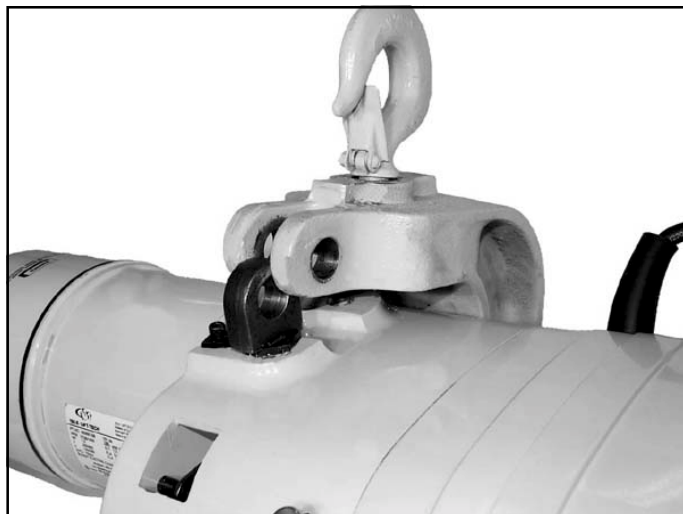
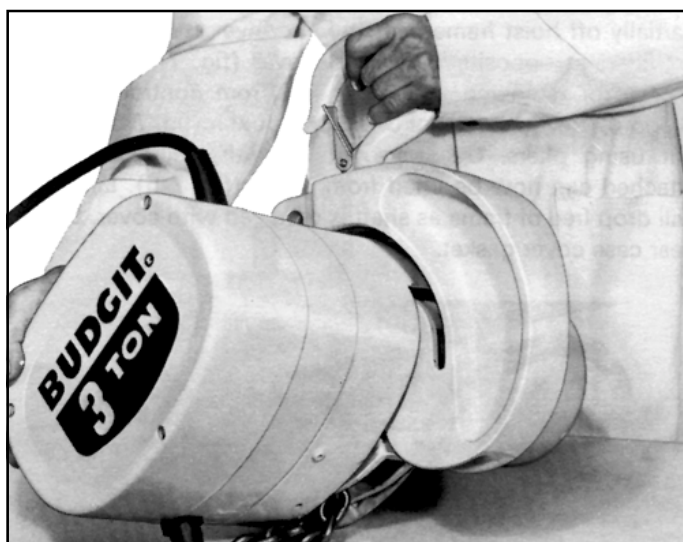

Figure 7-2. 3 Ton Hanger Bracket Connection Pin Removed
Figure 7-3. Removing 3 Ton Hanger Bracket from Hoist Frame
(4) To remove 3 ton hanger bracket from hoist, remove retaining ring and connecting rod pin (see fig. 7-2). Rotate hoist approximately 45° (see fig. 7-3) and hanger will slip free from hoist frame.
(3) On 3 ton models, remove retaining ring from connecting rod pin and push connecting rod pin through bracket and connecting rod, releasing hanger (see fig. 7-2). Raise hanger above hoist frame to provide access to hook nut. Rotate hook until grooved pin in nut is visible from end of hanger frame. Using a drift punch, drive grooved pin thru hook nut until it hits hanger pocket. Remove drift far enough to hold nut from turning and unscrew hook from nut. Thrust washer will fall free.
(4) To remove connecting rod (fig 7-2) on 3 ton hoist, remove screw securing suspension bushing keeper. Unscrew suspension bushing to remove connecting rod from frame.